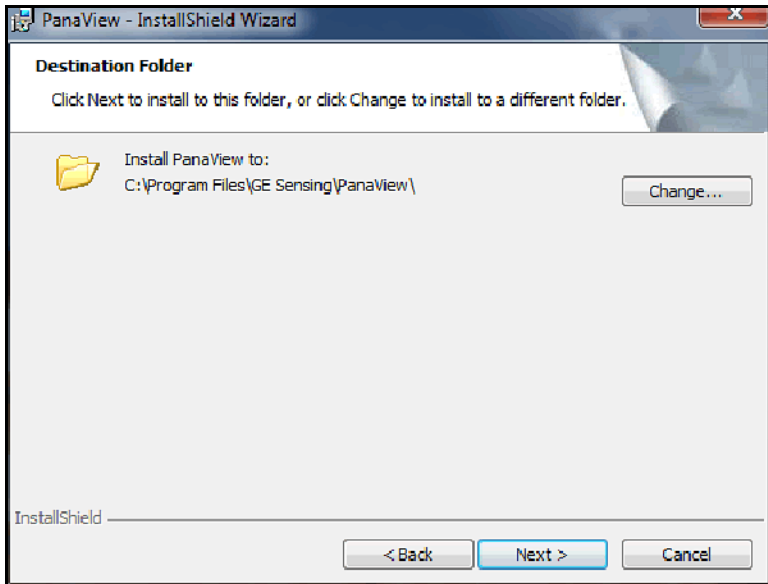

Figure 7: Destination Folder Screen
6. Click on the [Next] button at the screen shown in *Figure 7* below to accept the default directory for the PanaView files (recommended).